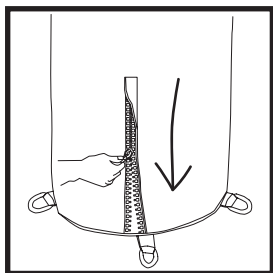

Fig. 1
3. Fasten the zip at the base of the pole (Fig. 1).